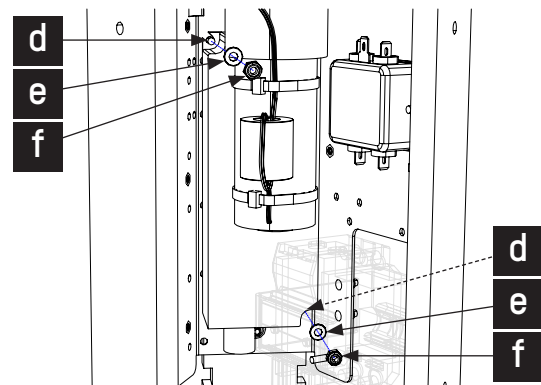

Fig. 45 - Power supply replacement (fastening points)
- Remove the power supply from the support plate by unscrewing the two fastening screws (d) + locknuts (f) + flat washers (e) (Fig. 45);